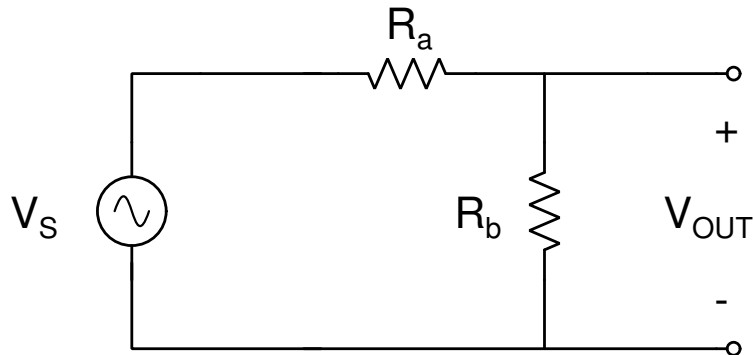

Figure 1: The circuit under test (CUT) is an ideal resistor divider circuit.
In this lab you are to determine the voltage ratio, V_{OUT}/V_S , produced by the voltage divider with resistors R_a and R_b shown in Figure 1.
1. Use the Keystone E4980A LCR Meter to measure the capacitance and dissipation factor (DF) of the 1X probes (cables with a BNC connector and alligator clips) and the scope probes (cables with a BNC connector and probe clip) at frequencies between 100 Hz and 100 kHz. Make sure the black switch on the scope probe is set to the 1X position. Record at least three frequency values per decade (e.g., 100, 200, 500, 1,000, 2,000, 5,000, 10,000, 20,000, 50,000, 100,000 Hz) in a table in your notebook. You will use these values for the rest of the semester.
4. For each of the three pairs of resistors, place two resistors with the same value on the breadboard to make a series circuit as shown in Figure 1. If the resistors have slightly different values, make sure you keep track of which resistor is which.